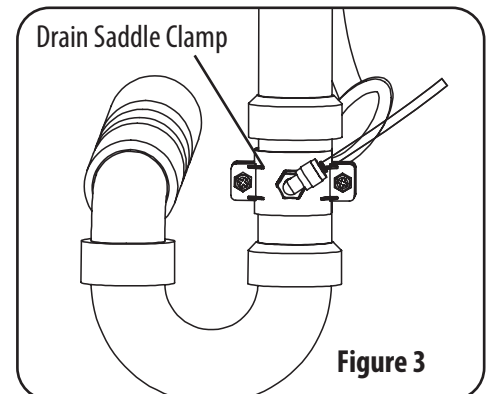

Figure 3
1. Take out the 1/4" tubing from the accessory bag, cut it to proper length, attach one end to the drain water connection on RO module assembly and attach the another end to the drain pipe line **figure 3**. Make sure the tubings are fully seated.
Connections to undersink plumbing can be made with a saddle clamp designed to accept the drain tubing from the RO module assembly. Drain Saddle Kit is supplied for 1-1/2" under sink drain plumbing (Figure 3). A 1/2" hole will need to be drilled into the drain pipe at the location the drain clamp is to be installed. Be sure to check and follow local plumbing codes prior to installation.